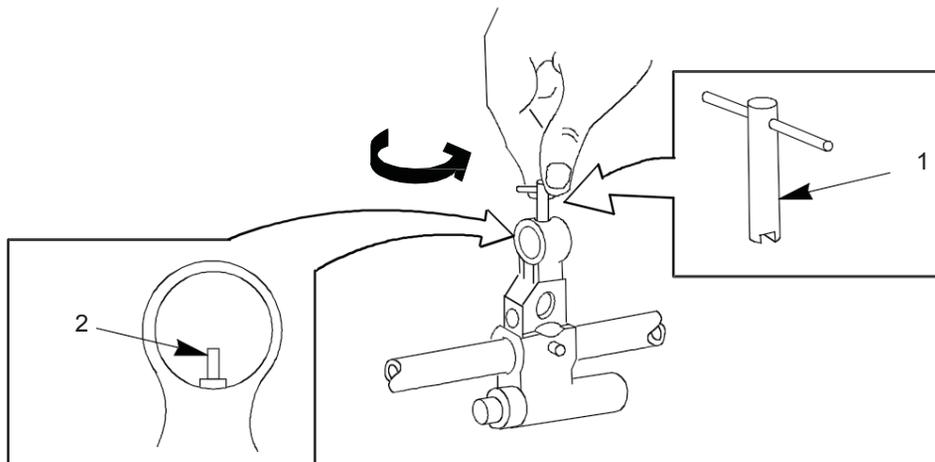

Figure 5. Spanner Wrench, Sight Post (Current Version Barrel shown).
Prior to disassembly of Front Sight Post (Figure 5, Item 2), count the number of threads exposed. This will be needed during the barrel assembly procedures.
6. Using front sight post spanner wrench (Figure 5, Item 1) unscrew front sight post (Figure 5, Item 1) counterclockwise (CCW) and discard.